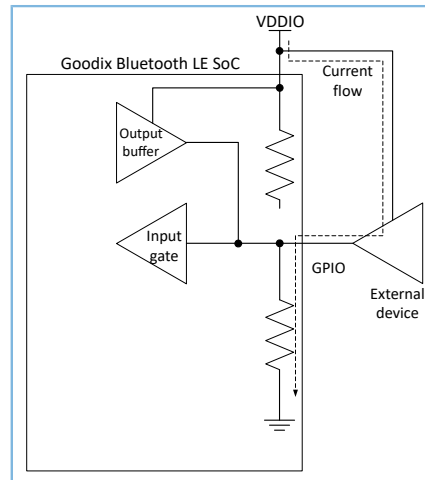

Figure 4-3 Current schematic for a high driven input
- (2) If a GPIO pin is configured as an input, the pull-down resistor is enabled and the external device is driving a high level on the GPIO pin, then there is no current leakage from VDDIO. However, current will be generated from VDDIO through the external device, as shown in Figure 4-3.